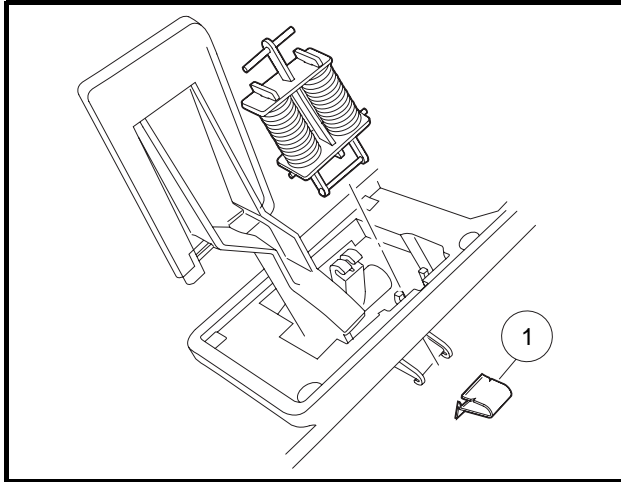

Figure 5-5 Accelerator Spring Clip
2. To install accelerator return spring assembly, position the accelerator return spring unit in the pedal group with the lower crosspin of the assembly positioned in the pedal group, and secure it in place with the clip (1) (**Figure 5-5, Page 5-6**).